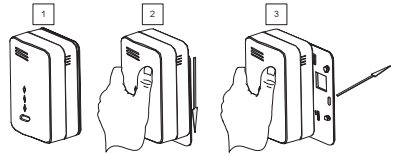

Fig. 2
1. Remove the mounting bracket from your unit according to Fig. 2.